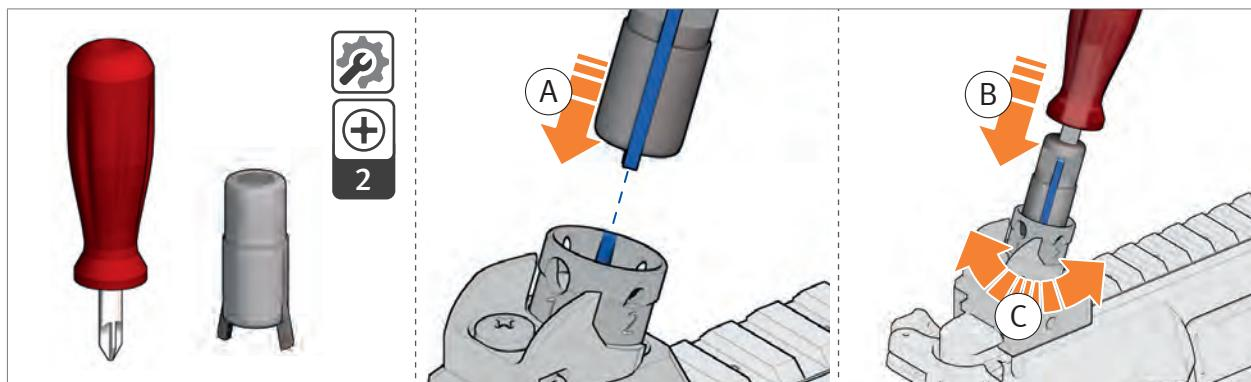

Fig. 80: Turn drum sight
1. Insert elevation adjustment tool into drum sight while inserting the wedges of the tool into the grooves of the drum sight (Fig. 80).
2. Insert screwdriver in tool for elevation adjustment (Fig. 80).
3. Press screwdriver downwards and hold it (Fig. 80).
4. Turn the drum sight in the desired direction (Fig. 80).
<p>› Turn drum sight clockwise (Fig. 80).</p>	<p>Turning by one lug mark alters the point of impact by approx. 1.4 cm at a range of 100 m.</p>
<p>› Turn drum sight anti-clockwise (Fig. 80).</p>